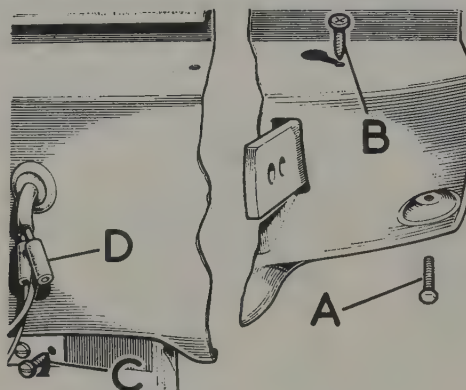

Fig. 12.37. Rear valance bolts
- 2 On early produced models note the reverse light cable colours at their connections as shown in Fig.12.37 and disconnect the cables.